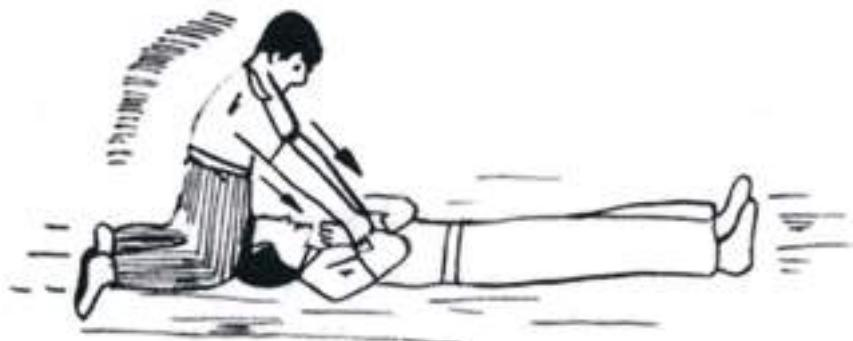

Fig. 11.5: Schafer's Prone Pressure Method – step 2.
1. If it is not possible to lay the person prostrate because of injuries or burns, he/she is laid on his/her back as shown in Fig. 11.5.